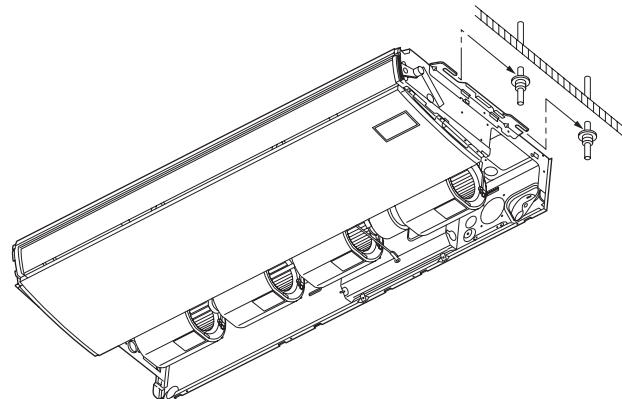

Fig. 3-90
- b) Lift the indoor unit, and place it on the washers through the notches, in order to fix it in place. (Fig. 3-90)